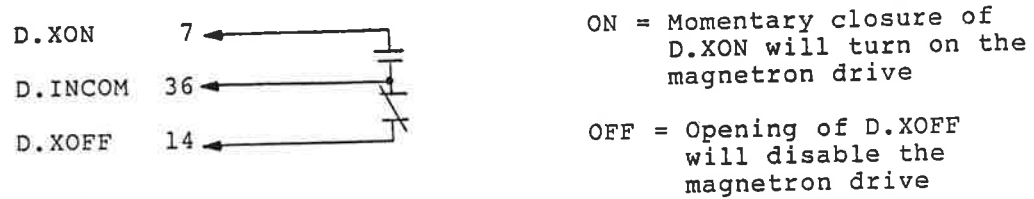

Figure 2. Three-Wire Control Connection
D.XON command (user pin 7) allows remote turn-on of the magnetron drive. To use this command, the REMOTE ON must be selected on the front panel. This transfers the OUTPUT ON command to D.XON. A momentary contact closure of D.XON to D.INCOM pin 36 will cause the magnetron drive to turn on if D.XOFF is connected through a contact closure to D.INCOM. See Figure 2.